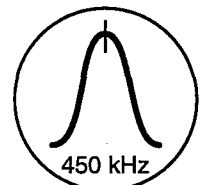

Fig. 2
4. Adjust **Z102** so that the output frequency is maximized in Fig. 2.